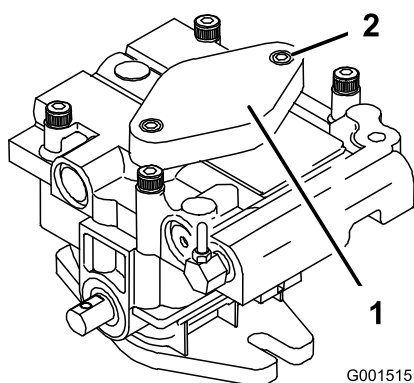

Figure 62
7. To prime the charge pump, loosen the 2 hex socket-head capscrews (Figure 62) 1-1/2 turns only. Make sure engine is not running. Lift charge pump housing upward and wait for a steady flow of oil to flow out from under the housing. Tighten the capscrews. Do this for both pumps.